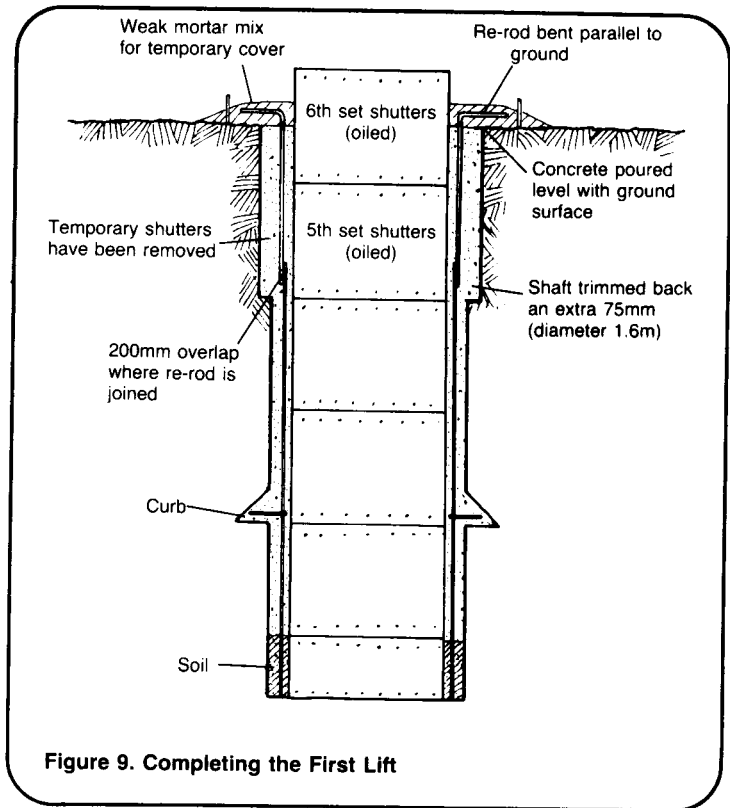

Figure 9. Completing the First Lift
at least 200mm as shown in Figure 9. The new re-rods should protrude above ground about 200mm. Position circles of horizontal re-rods 250-300mm apart and fasten them to the vertical re-rods. Remove the burlap from the concrete.
17. Oil the fifth and sixth sets of shutters in turn, set them in place, check their positioning with trimming rods and a spirit level, and bolt them together. Pour concrete as before, and carefully fill in the space behind the shutters up to ground level as shown in Figure 9. The extra thickness of concrete in the top 1.5m of the lining will provide a solid base for the wellhead. See "Finishing Wells," RWS.2.C.8.
18. Bend back the protruding vertical rods until they are level with the ground. Make a weak mortar mix (1 part cement to 15 parts sand), and use it to cover the re-rods and form a lip around the well as shown in Figure 9. This mortar layer will help keep surface water and debris out of the well, and it can be easily broken away when it is time to build the wellhead.